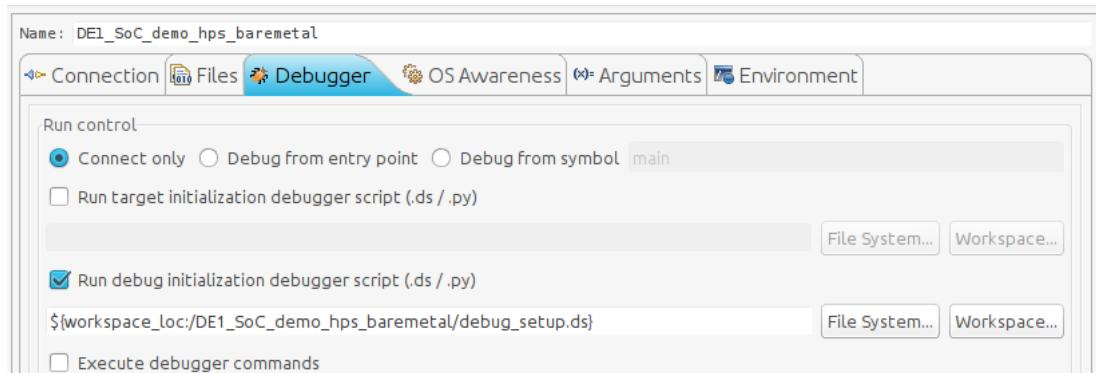

Figure 12-7. Debug Configuration "Debugger" Tab
- Enable the “Run **DEBUG** initialization debugger script (.ds / .py)” checkbox. Set the debug script to the one we defined for the project in 12.2.2. You should have something similar to Figure 12-7.